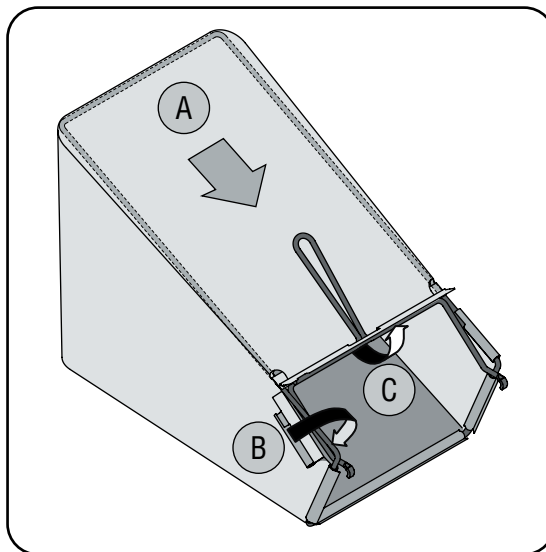

Figure 6
bottom of bag.) Insert the hooks on the frame through the holes in the side plastic channels of the bag. See Figure 6.
- b. Secure bag to frame by working the plastic channels on bag over frame as shown in Figure 6. All of the plastic channels except center top of bag attach from the outside of bag. Center top of bag attaches from the inside of bag.